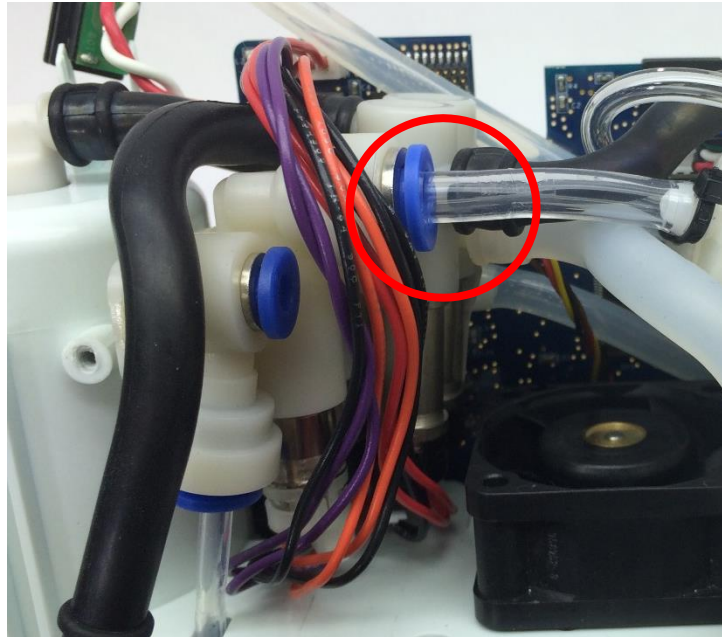

Figure 8: Accumulator Tubing removal
4. Release the Accumulator Tube from its quick connect in the Product Manifold by pushing down on the retaining ring while pulling on the tubing. (Figure 8).
4. Insert the Accumulator Tube into the quick connect fitting on the Product Manifold. After insertion, pull lightly on the tubing to ensure that it is fully seated (Figure 8).